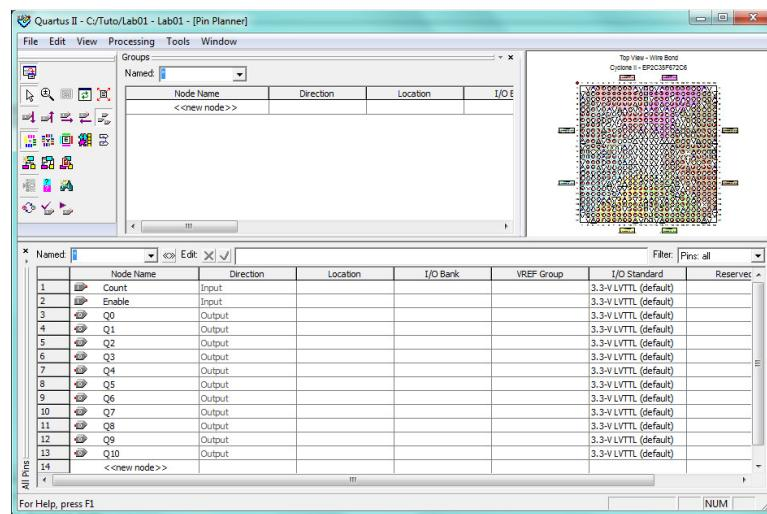

Fig. 10: Pin Planner
11. Next, click on Assignments > Pin Planner (See Fig. 10). If the pin list at the bottom of the window is not visible, click View > All Pins List.